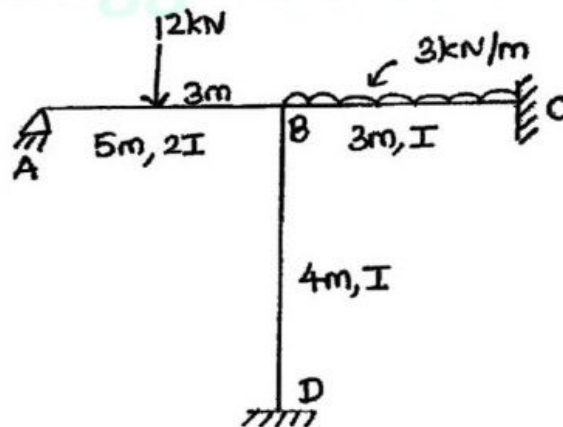

Fig. Q13 (a)
13. (a) Determine the end moments for the frame shown in Fig. Q13(a) using moment distribution method.